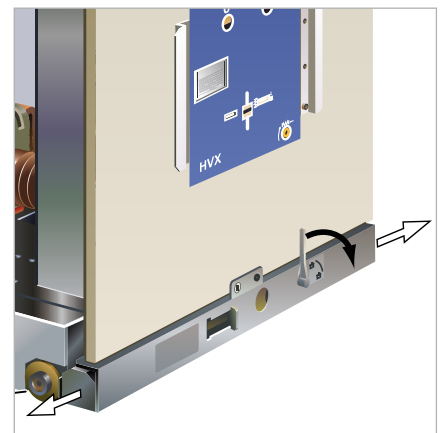

Fig. 28
- HVX trucks for PIX High Panels are anchored in the panel by actuation of the truck interlock (Fig. 28).